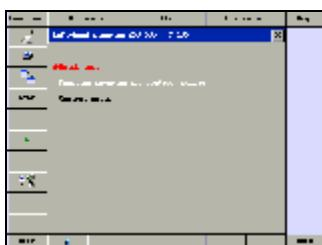

Fig.3.17
13. Select **Control units** as shown in Fig.3.17
NOTE: If you enter **Quick test** mode in Fig.3.17 interface, **Star** system will perform Quick test of the entire vehicle system (see Fig.3.25).